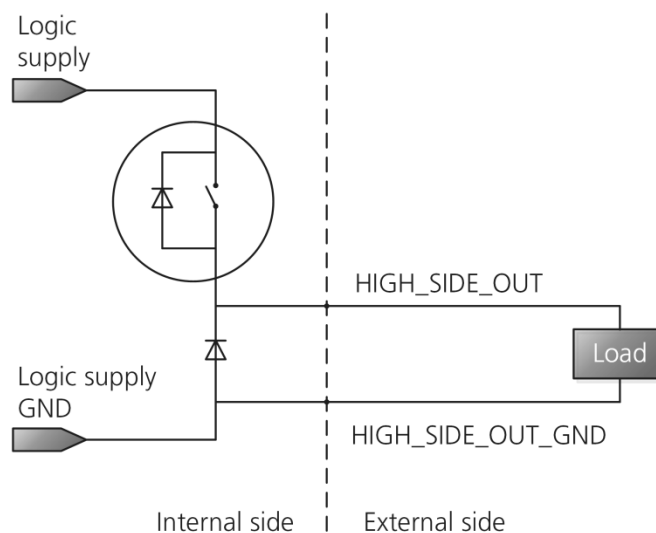

Figure 32 High side switch
- Y-capacitors between positive and negative DC potentials and chassis (housing) are discharged with a fixed resistance connected in a Y configuration, see Figure 32
See Figure 32.
See Figure 32
- Wait 5τ seconds from activation of pre-charge contactor before activation of the main contactor. $\tau = R_{\text{Pre-charge}} \times C_x$ (see Figure 32)